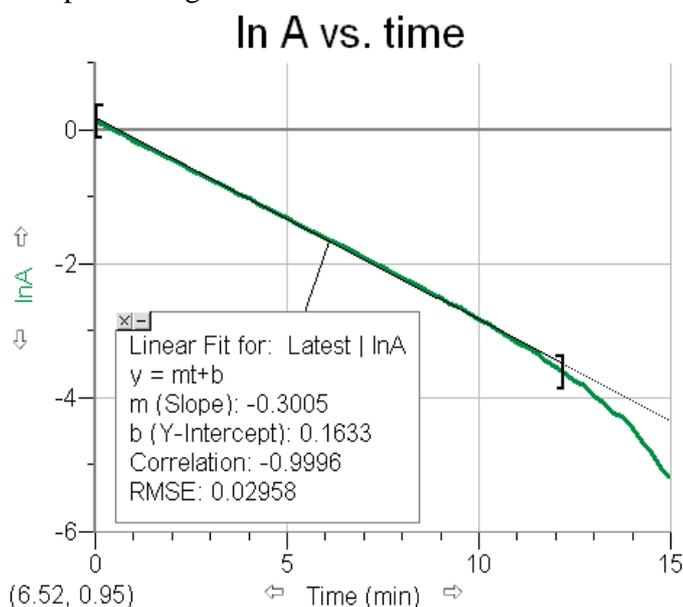

Figure 10. Kinetics plot with a shortened time range. The A_{∞} offset used was too large producing curvature at the very end of the plot.
- f. The very long-time behavior of your plot may be noisy and may have some curvature, Figure 10. This curvature may be caused by not knowing the exact A_{∞} offset from step 1,